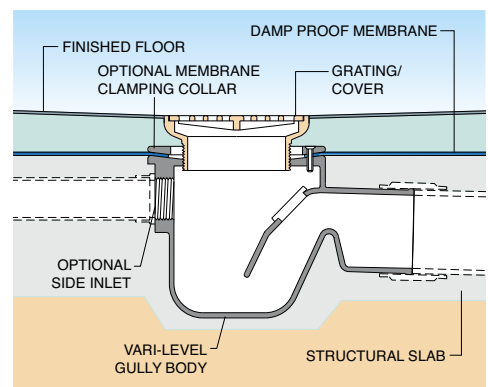

Figure 3: **G304C** body and optional, standard 4" membrane clamping collar
- (ii) **Optional membrane clamping collar** (figure 3)